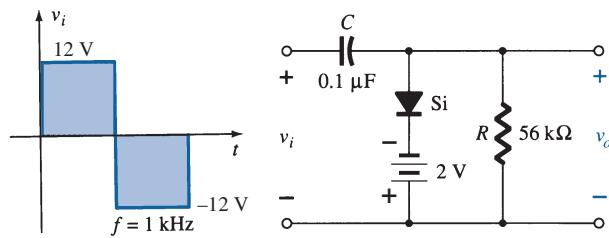

FIG. 183
- *39. For the network of Fig. 183: